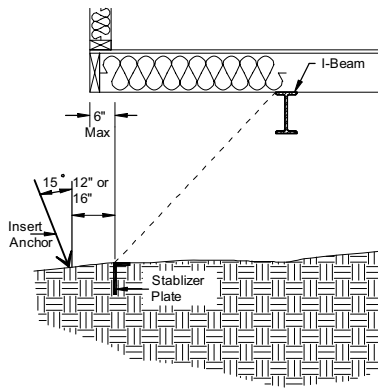

Figure 69. Determining anchor and stabilizer plate location
1. **Locate anchor.** Select a location for the anchor under the home but within six inches of the exterior wall (**Figure 69**). Avoid locations that will interfere with skirting.